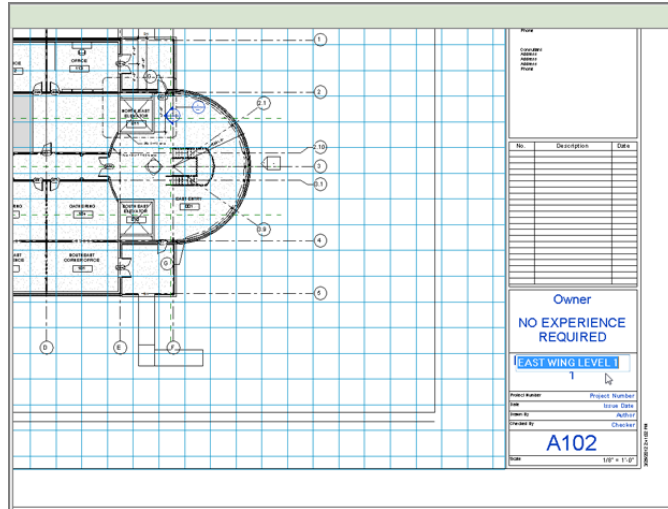

FIGURE 14.6: Changing the title-block information
1. With Sheet A102 open, zoom in to the right side of the view, as shown in Figure 14.6.
4. Click into the text that says *Unnamed*, and type **EAST WING LEVEL 1** (see Figure 14.6).